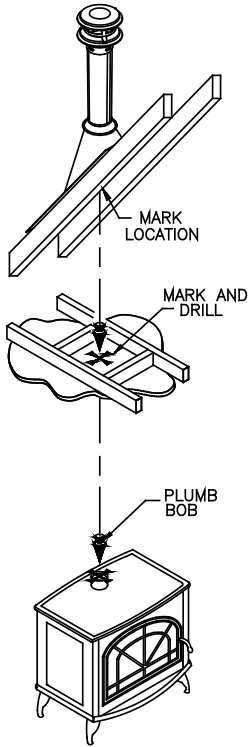
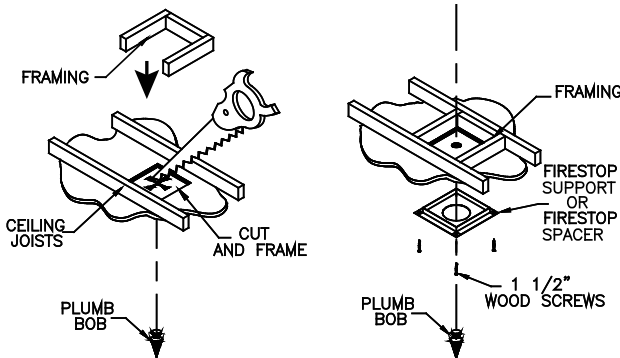

Figure 2
Figure 3
- B. Drop a plumb bob to the center of the appliance flue outlet and mark center point on the ceiling (*Figure 2*). At your marked center point, cut and frame a square hole in the ceiling for installation of the Ceiling Support or Firestop Spacer (*Figure 3*). Refer to *Table 1* for the dimensions of the hole.